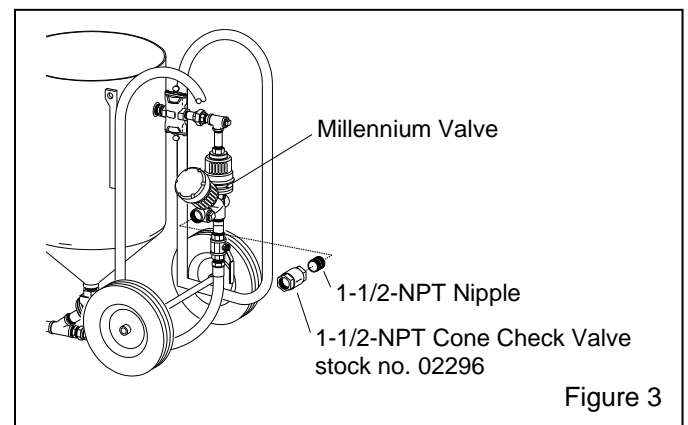

Figure 3
2.2.1 Where multiple blast machines are operating from a single air source, install a ball-cone check valve at the air supply on each machine. Refer to the illustration in Figure 3 to install the check valve.